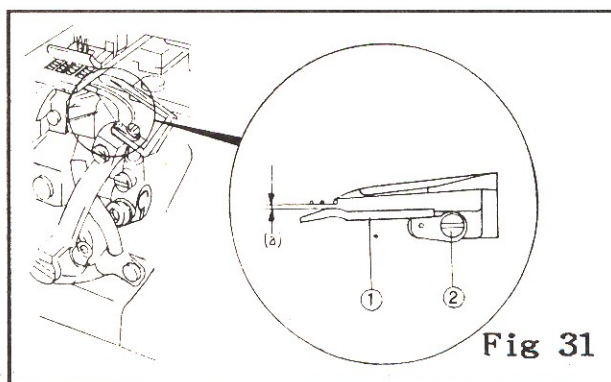

Fig 31
- 1.When the Looper goes from the right exact point to the left exact point, it passes behind the needles and the Front Needle Guard (1) is in front of the needles. (Fig 31)
- 3.To adjust, loosen the screw (2), and move the Front Needle Guard (1) back or forth.